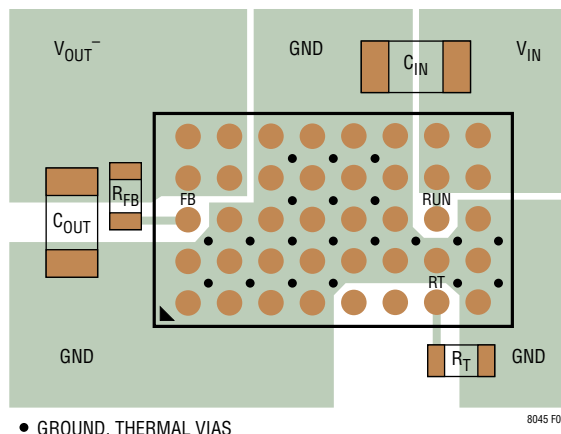
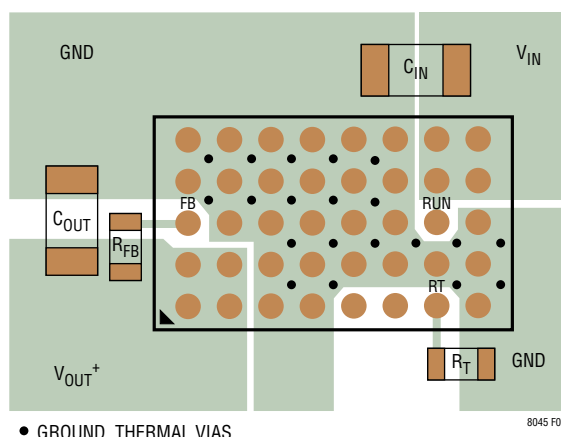

Figure 2. Layout Showing Suggested External Components, GND Plane and Thermal ViAs for the Inverting Topology Application
Figure 3. Layout Showing Suggested External Components, GND Plane and Thermal ViAs for the SEPIC Topology Application
Most of the headaches associated with PCB layout have been alleviated or even eliminated by the high level of integration of the LTM8045. The LTM8045 is nevertheless a switching power supply, and care must be taken to minimize EMI and ensure proper operation. Even with the high level of integration, you may fail to achieve specified operation with a haphazard or poor layout. See Figure 2 for the suggested layout of the inverting topology application and Figure 3 for the suggested layout of the SEPIC topology application. Ensure that the grounding and heat sinking are acceptable.
6. Use vias to connect the GND copper area to the board's internal ground planes. Liberally distribute these GND vias to provide both a good ground connection and thermal path to the internal planes of the printed circuit board. Pay attention to the location and density of the thermal vias in Figures 2 and 3. The LTM8045 can benefit from the heat sinking afforded by vias that connect to internal GND planes at these locations, due to their proximity to internal power handling components. The optimum number of thermal vias depends upon the printed circuit board design. For example, a board might use very small via holes. It should employ more thermal vias than a board that uses larger holes.